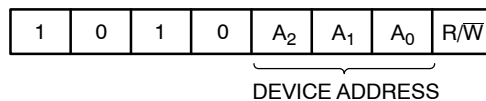

Figure 3. Slave Address Bits
The Master addresses a Slave by creating a START condition and then broadcasting an 8-bit Slave address. For the CAV24C64, the first four bits of the Slave address are set to 1010 (Ah); the next three bits, A2, A1 and A0, must match the logic state of the similarly named input pins. The R/ $\bar{W}$  bit tells the Slave whether the Master intends to read (1) or write (0) data (Figure 3).